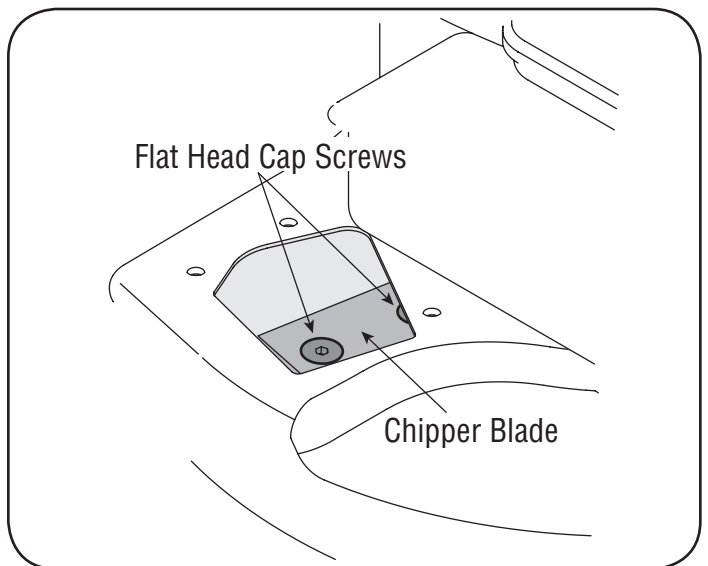

Figure 20
- Using a 3/16" allen wrench, remove the flat head cap screws that hold the chipper blade to the impeller. These screws are accessible through the opening created when the chipper chute was removed earlier. See Figure 20.